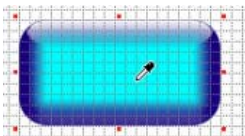

FIG. 361 Grab Properties tool
2. Click on each design element that you want to Paint using the active Property Set in the *Property Painter* dialog (FIG. 361):